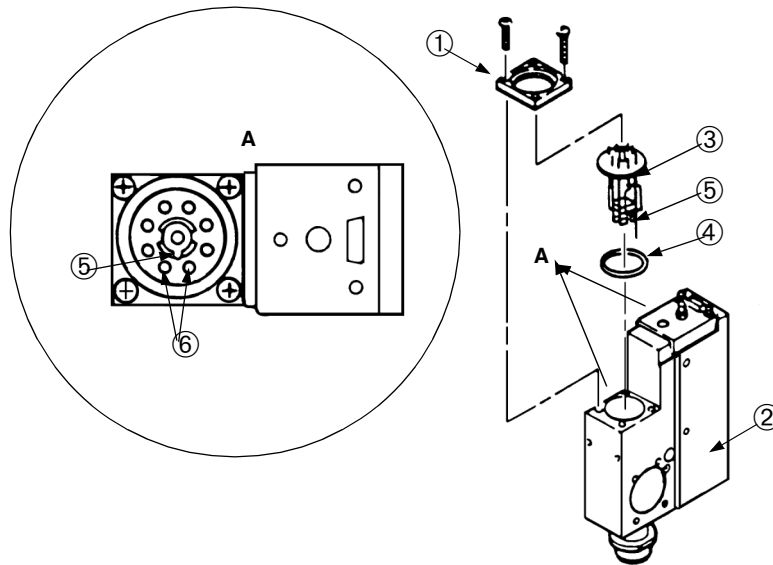

Figure B-5 Ion Source Replacement
If the ion source needs replacement (Figure B-5), replace it during spectrometer tube cleaning. Adjustment is required after replacement is complete. Refer to "Calibration and Sensitivity Checks" on page 3-11 for the adjustment procedures.
2. Remove the four Phillips head screws that hold the flange cap ① onto the body of the spectrometer tube ② (Figure B-5).
3. Firmly but gently separate the flange cap from the ion source ③.
13. Wipe the new O-ring ④ and mating surfaces with a clean, lint-free cloth and place the new ion source in its cavity:
- ☐ Place the locating pin ⑤ so that it falls in the center of the guide hole.
- ☐ Ensure that pins 1 and 8 ⑥ are parallel to the sidewall of the spectrometer tube as shown in Figure B-5 on page B-6, View A.